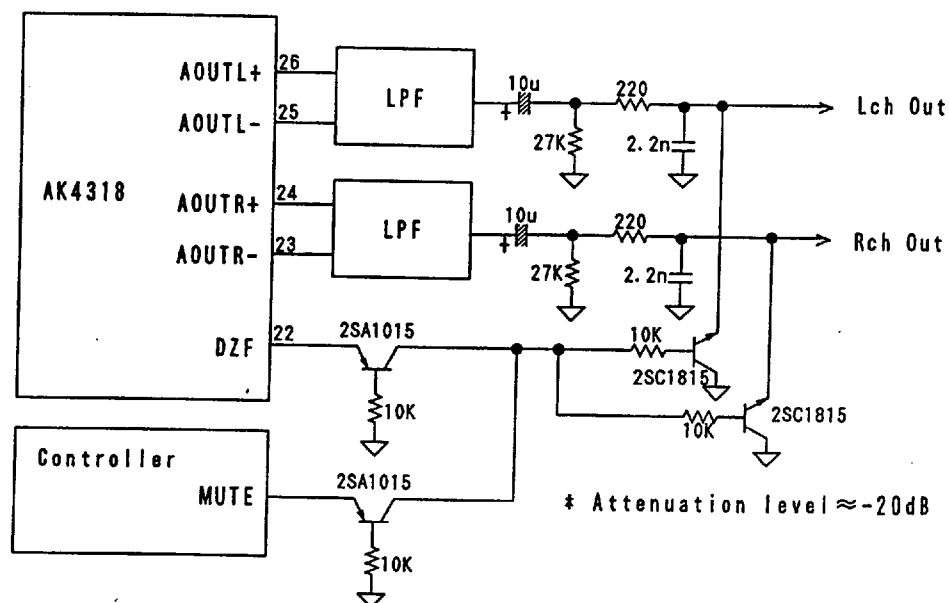

Figure 12. External mute circuit example
- ① The output signal is attenuated by $-\infty$ during 1024 LRCK cycles(1024/fs).
- ② Analog output corresponding to digital input have the group delay(GD).
- ③ If the soft mute is cancelled within 1024 LRCK cycles, the attenuation is discontinued and returned to 0dB.
- ④ As analog outputs aren't muted at ZMUTE "L", the noise level on analog outputs is -97dB.
- ⑤ When the input data at both channels are continuously zeros for 8192 LRCK cycles, DZF goes to "H". DZF immediately goes "L" if input data are not zero after going DZF "H".
- ⑥ As analog outputs are muted at ZMUTE "H", the noise level on analog outputs is about -110dB.
- ⑦ Click noise about -50dB occurs at the edges("↑↓") of DZF signal. Please mute the analog output externally if the click noise influences system application(Figure 12).
- ① Analog output corresponding to digital input have the group delay(GD).
- ② Analog outputs are floating(Hi-Z) at the power-down mode. The output noise level is about -110dB.
- ③ Click noise about -50dB occurs at the edges("↑↓") of $\overline{PD}$ signal.
- ④ When the external clocks(XTI, BICK, LRCK) are stopped, the AK4318 should be in the power-down mode.
- ⑤ Please mute the analog output externally if the click noise(③) influences system application. The timing example is shown in this figure. Please refer to Figure 12.
Some click noise may occur at the edges ("↑ ↓") of $\overline{\text{PD}}$ signal and the zero detection with $\text{ZMUTE} = \text{"H"}$. The click noise which occurs at the edges ("↑ ↓") of $\overline{\text{PD}}$ signal can be avoided by controlling the external mute circuit using the signal like ⑤ in Figure 11. The click noise at the zero detection can be also avoided by muting the analog outputs using DZF signal. The external mute circuit example is shown in Figure 12.